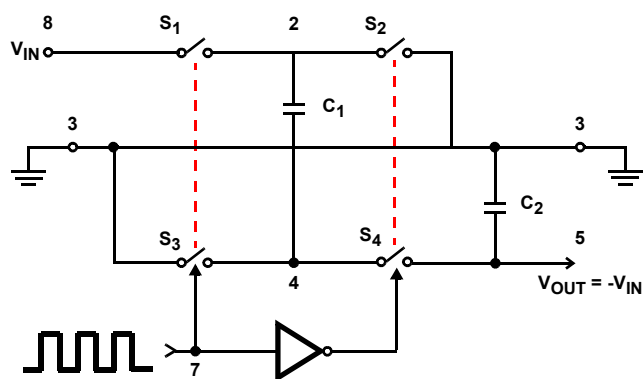
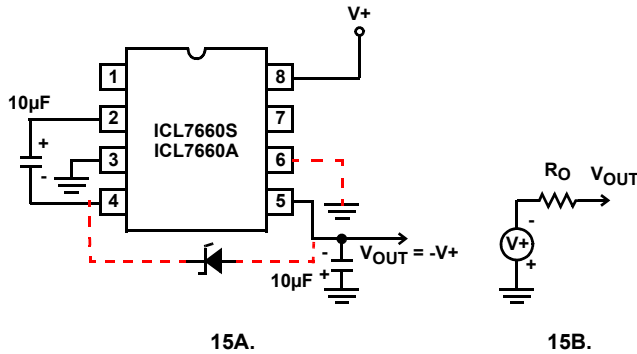
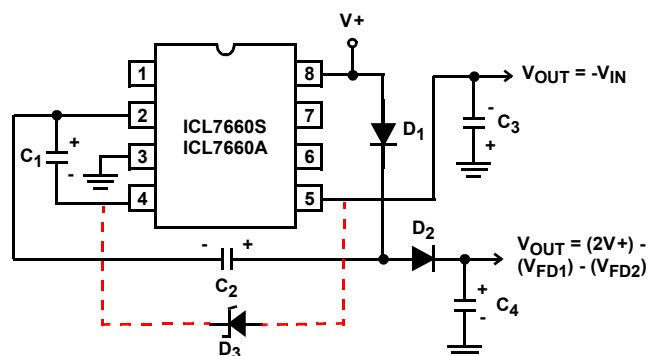

FIGURE 14. IDEALIZED NEGATIVE VOLTAGE CONVERTER
FIGURE 15. SIMPLE NEGATIVE CONVERTER AND ITS OUTPUT EQUIVALENT
FIGURE 19. COMBINED NEGATIVE VOLTAGE CONVERTER AND POSITIVE DOUBLER
The ICL7660S and ICL7660A contain all the necessary circuitry to complete a negative voltage converter, with the exception of two external capacitors, which may be inexpensive 10 $\mu$ F polarized electrolytic types. The mode of operation of the device may best be understood by considering Figure 14, which shows an idealized negative voltage converter. Capacitor  $C_1$  is charged to a voltage,  $V_+$ , for the half cycle, when switches  $S_1$  and  $S_3$  are closed. (Note: Switches  $S_2$  and  $S_4$  are open during this half cycle). During the second half cycle of operation, switches  $S_2$  and  $S_4$  are closed, with  $S_1$  and  $S_3$  open, thereby shifting capacitor  $C_1$  to  $C_2$  such that the voltage on  $C_2$  is exactly  $V_+$ , assuming ideal switches and no load on  $C_2$ . The ICL7660S and ICL7660A approach this ideal situation more closely than existing non-mechanical circuits.
In the ICL7660S and ICL7660A, the four switches of Figure 14 are MOS power switches;  $S_1$  is a P-Channel device; and  $S_2$ ,  $S_3$  and  $S_4$  are N-Channel devices. The main difficulty with this approach is that in integrating the switches, the substrates of  $S_3$  and  $S_4$  must always remain reverse biased with respect to their sources, but not so much as to degrade their "ON" resistances. In addition, at circuit start-up, and under output short circuit conditions ( $V_{OUT} = V_+$ ), the output voltage must be sensed and the substrate bias adjusted accordingly. Failure to accomplish this would result in high power losses and probable device latch-up.
where  $V_1$  and  $V_2$  are the voltages on  $C_1$  during the pump and transfer cycles. If the impedances of  $C_1$  and  $C_2$  are relatively high at the pump frequency (see Figure 14) compared to the value of  $R_L$ , there will be a substantial difference in the voltages,  $V_1$  and  $V_2$ . Therefore it is not only desirable to make  $C_2$  as large as possible to eliminate output voltage ripple, but also to employ a correspondingly large value for  $C_1$  in order to achieve maximum efficiency of operation.
The majority of applications will undoubtedly utilize the ICL7660S and ICL7660A for generation of negative supply voltages. Figure 15 shows typical connections to provide a negative supply where a positive supply of +1.5V to +12V is available. Keep in mind that pin 6 (LV) is tied to the supply negative (GND) for supply voltage below 3.5V.
The output characteristics of the circuit in Figure 15 can be approximated by an ideal voltage source in series with a resistance as shown in Figure 15B. The voltage source has a value of  $-(V_+)$ . The output impedance ( $R_O$ ) is a function of the ON resistance of the internal MOS switches (shown in Figure 14), the switching frequency, the value of  $C_1$  and  $C_2$ , and the ESR (equivalent series resistance) of  $C_1$  and  $C_2$ . A good first order approximation for  $R_O$  is shown in Equation 2:
Figure 19 combines the functions shown in Figure 15 and Figure 18 to provide negative voltage conversion and positive voltage doubling simultaneously. This approach would be suitable, for example, for generating +9V and -5V from an existing +5V supply. In this instance, capacitors  $C_1$  and  $C_3$  perform the pump and reservoir functions, respectively, for negative voltage generation, while capacitors  $C_2$  and  $C_4$  are pump and reservoir, respectively, for the doubled positive voltage. There is a penalty in this configuration which combines both functions, however, in that the source impedances of the generated supplies will be somewhat higher, due to the finite impedance of the common charge pump driver at pin 2 of the device.
resistor to the LV pin ensures start-up. Because the switches share the load in parallel, the output impedance is much lower than in the standard circuits, and higher currents can be drawn from the device. By using this circuit, and then the circuit of Figure 15, +15V can be converted, via +7.5 and -7.5, to a nominal -15V, although with rather high series output resistance (~250Ω).